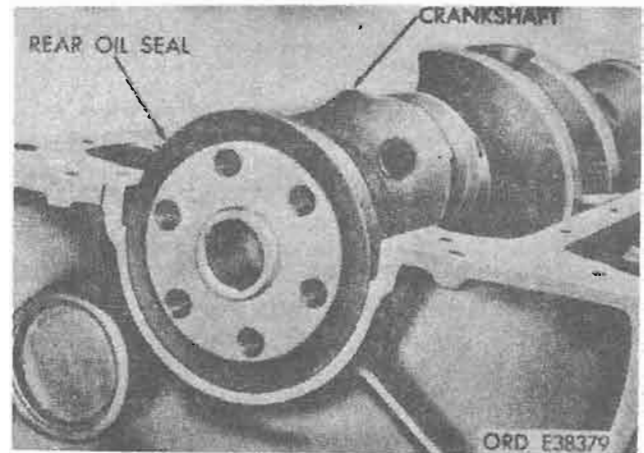

Figure 4-115. Crankshaft and rear oil seal.
e. *Crankshaft.* Lift crankshaft carefully out of cylinder block so thrust bearing surfaces are not damaged (fig. 4-115).